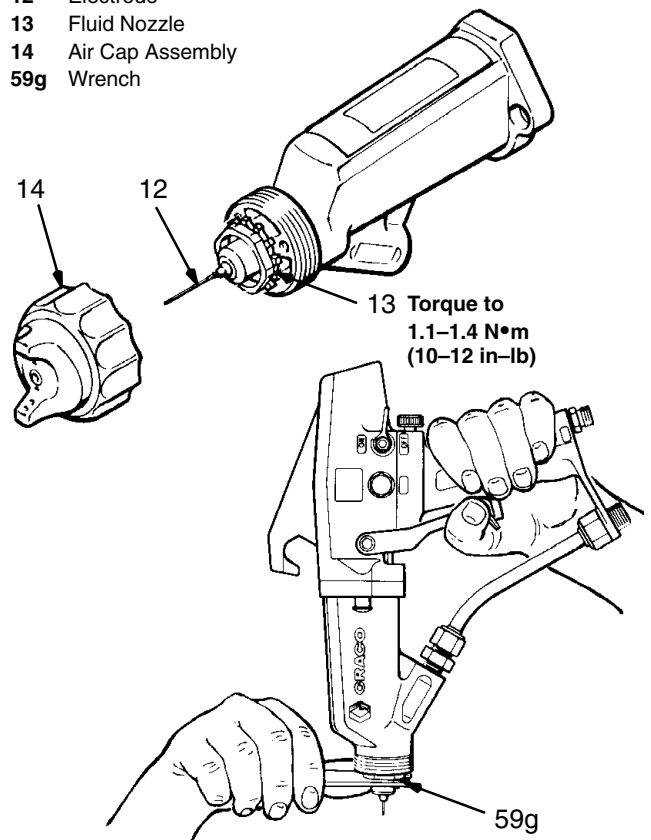

Fig 6
2. Remove the air cap assembly (14). See Fig 6.
3. Turn the locking pin (84) to the unlocked position.
4. Squeeze the gun trigger and remove the fluid nozzle with the fluid nozzle wrench (59g) supplied. Make sure the front of the gun is held down. See Fig 6.
6. Squeeze the gun trigger and screw the fluid nozzle back into gun. Tighten the nozzle securely with the wrench (59g) supplied. Torque the fluid nozzle to 1.1–1.4 N•m (10–12 in–lb). See Fig 6. Turn the locking pin to the locked position.
7. Carefully reinstall the air cap assembly. Avoid bending the electrode (12). Tighten the retaining nut so it is snug, allowing the air cap to turn with resistance. If too tight, the spray pattern will be distorted.